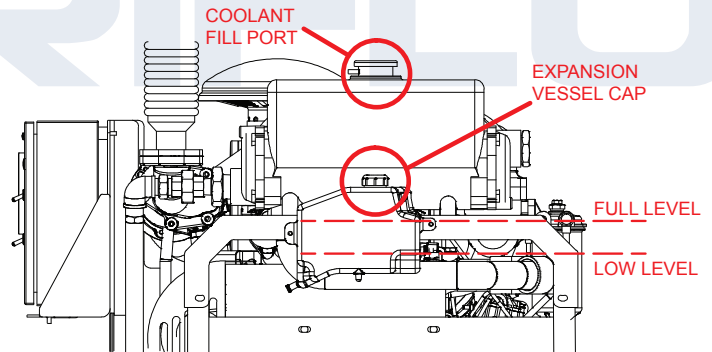

FIGURE 27 - COOLANT FILL LEVEL
- Remove the oil filter(s) using a filter wrench. Discard the old oil filter(s). See FIGURE 27.
Coolant level must be between the LOW and FULL lines as indicated on the expansion vessel mounted to the heat exchanger. See FIGURE 27.